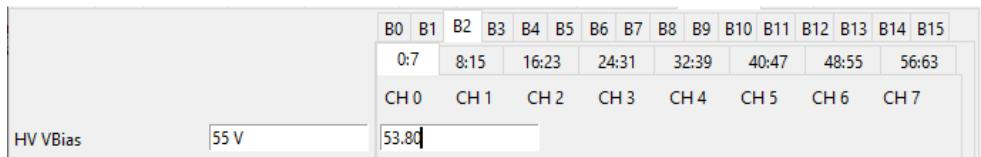

Fig. 3.25: Example of "HV VBias" parameter setting for a particular board.
The command defines the value for the bias voltage common to all channels. The available values range from 20.00 (V) to 85.00 (V). Board Tabs as those shown in **Fig. 3.25** are present in top left part of the HV_bias Tab and allow the user to define a different value of the **HV VBias** parameter for each board. For instance, the example reported in **Fig. 3.25** shows that a value of the **HV VBias** parameter of 53.80 V is set only for Board 2.
- **Vmon**: The HV measured value provided by the A7585D power supply to all channels of the board selected via the Board Tab (see **Fig. 3.25**). The value does not take into account the voltage provided by the internal Citroc-1A DACs.
By pressing the HV-ON button  the HV ramp up of the board selected via the proper Board Tab (see **Fig. 3.25**) starts. During the ramp up, the user can monitor the HV and current values by looking at the Status Bar or the Vmon and Imon values (see Sec. 3.4). To turn off the HV, the same button has to be pressed by the user.